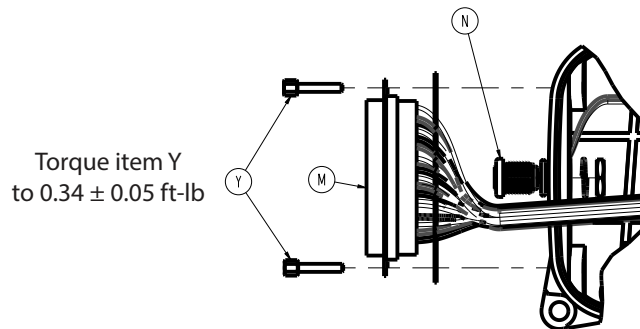

Figure 11 – 37-pin cable configuration
5. Using the 3/16" socket and 1/4" ratchet, remove and discard the jack screw (Y) (Figure 11).
8. Using the 3/16" socket and 1/4" ratchet, remove the two jack screws (Y) that secure the 37-pin cable (M) (Figure 11). Save the screws.
9. Move the 37-pin cable out and to the side to gain access to the power cable nut (N) (Figure 11).